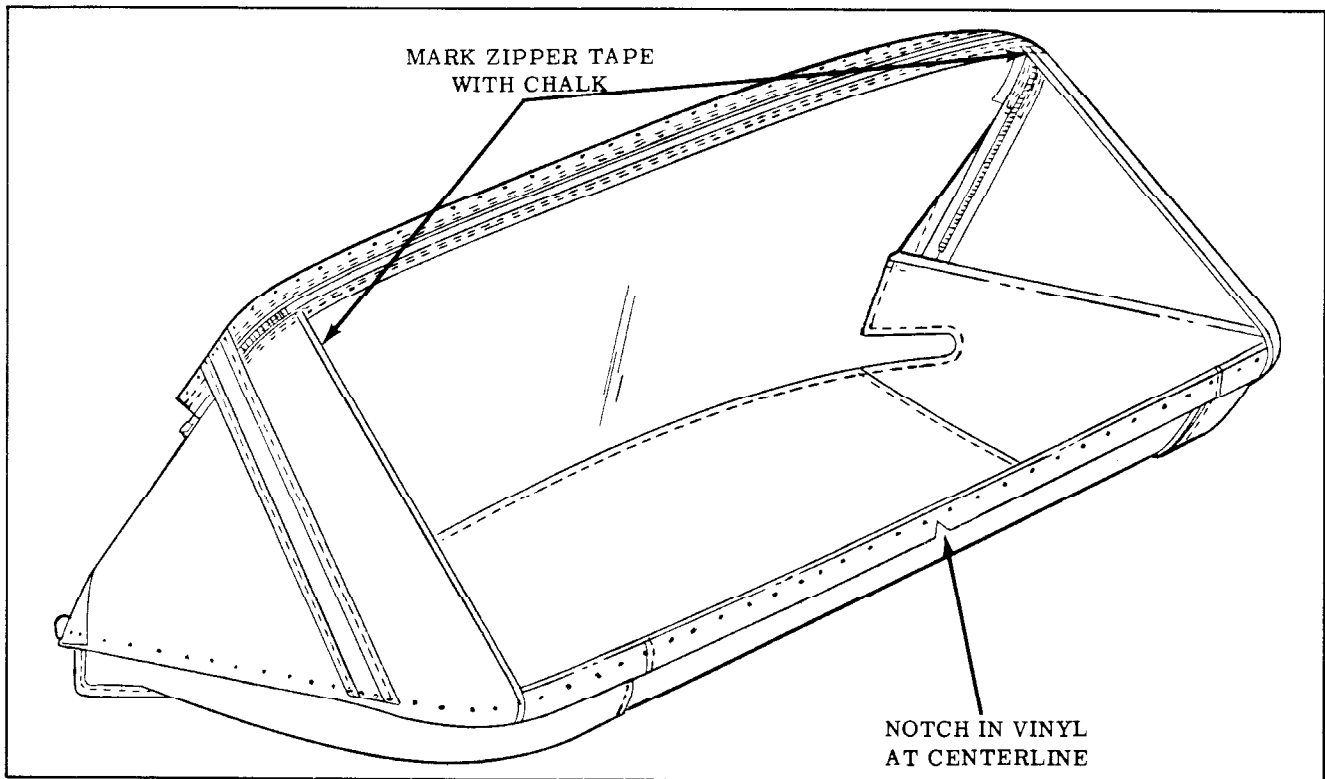

Fig. 15-109 Marking Zipper Tape
14. Using chalk or similar material, mark zipper tape at upper edge of vinyl. (Fig. 15-109)